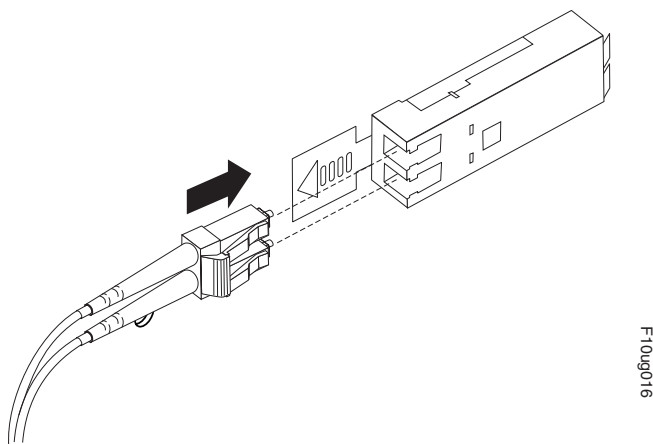

Figure 27. Inserting an LC-LC fibre-channel cable into an SFP module
4. Carefully insert this end of the LC-LC cable into an SFP module that is installed in the DS5100 and DS5300. The cable connector is keyed to ensure it is inserted into the SFP module correctly. Holding the connector, push in the cable until it clicks into place, as shown in Figure 27 on page 56.